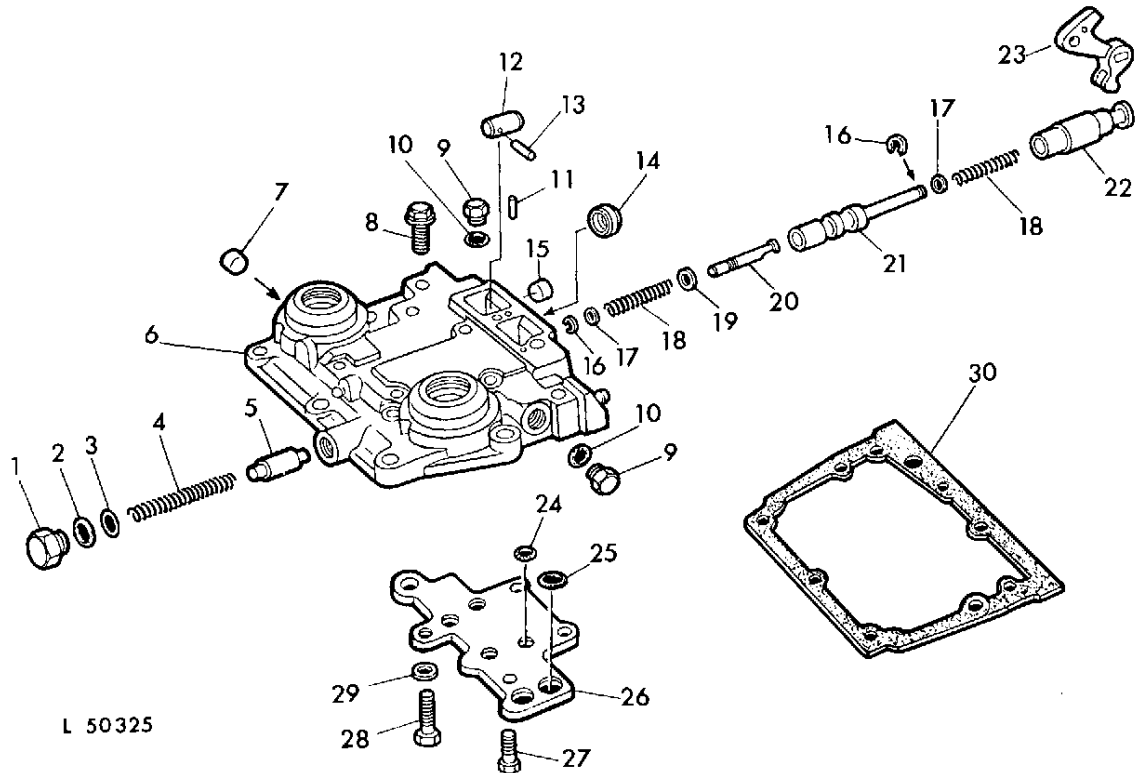

Fig. 7 — Control Valve Assembly and Pressure Regulating Valve, Exploded View
Remove plug 14 (fig. 7) and actuator 22 complete with spring 18, shims 17 and spool 21 from transmission shift cover. Then remove special pin 20 complete with washer 19, second spring 18, shims 17 and retaining ring 16.
Remove retaining rings 16 (fig. 7) of spool 21 and special pin 20.
Check spool 21 (fig. 7) and transmission shift cover 6 for damaged lands.
1. Install washer 19 (fig. 7), spring 18, three shims 17 and retaining ring 16 onto special pin 20. Place special pin (small end first) on spring scales. Press down with your finger on spring of special pin. The spring should break free from headed end of special pin at a determined load (see Specifications).
2. Install three shims 17 (fig. 7), spring 18, actuator 22 and retaining ring 16 on spool 21.